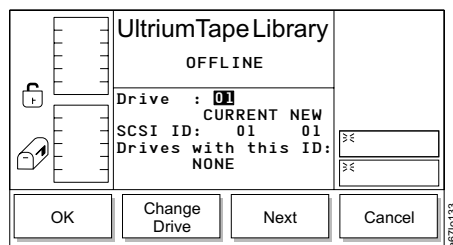

Figure 210. Drive SCSI Dialog for Drives without the Multi-Path Feature
4. Press the button below the **SCSI** softkey. The Drive SCSI Dialog displays (see Figure 210). The screen may vary, depending on whether your library has the Multi-Path feature.